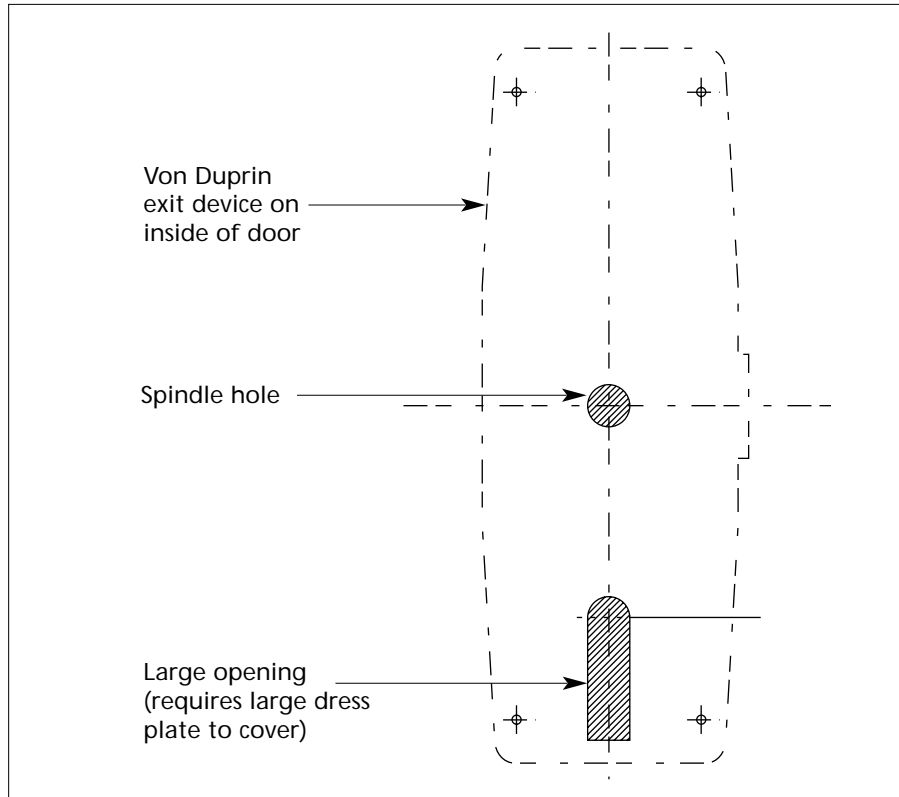

Figure 8
- 4) Install the operator as specified in section 6. According outside trim that was on the door or if an opening as shown on figure 8 is made on the door, you need to install the large dress plate (provided) under the operator.